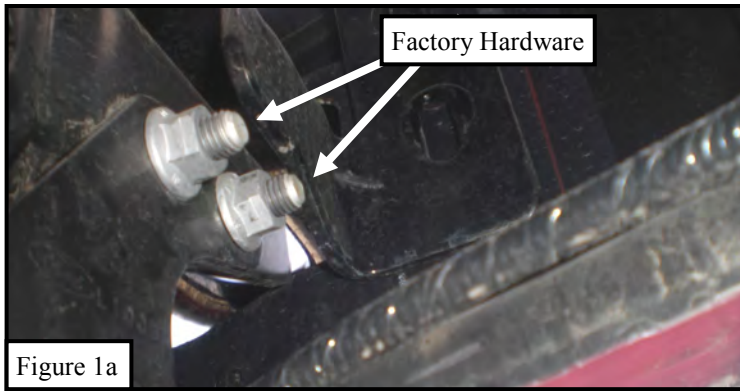
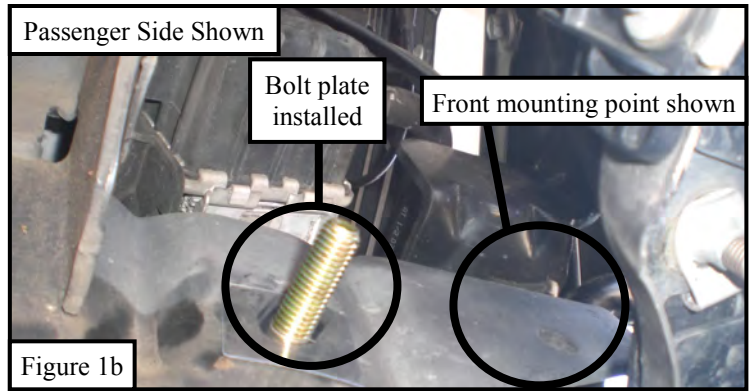

Figure 1a
Figure 1b
2. Starting underneath the front of the vehicle. Determine if your vehicle is equipped with factory frame horns, if so the factory hardware will be used to install the mounting brackets (**Figure 1a**), if not equipped attach by locating the factory slot and hole on the outside of the drivers side frame. Insert (1) M12 stud plate into the slot in the frame and thread (1) plastic retainer onto the stud plate to keep it from falling into the frame (**Figure 1b**).